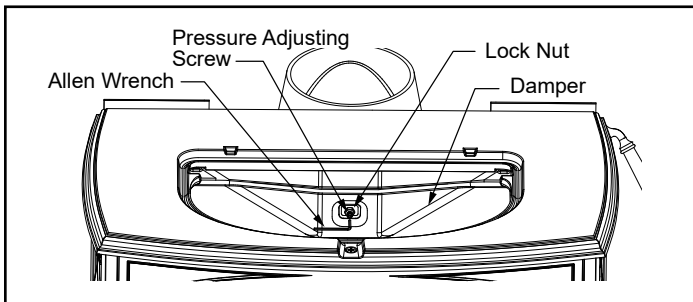

Figure 3.2 - Adjust the damper with the Allen wrench.
1. Remove the griddle. Loosen the lock nut at the center of the damper, Figure 3.2.